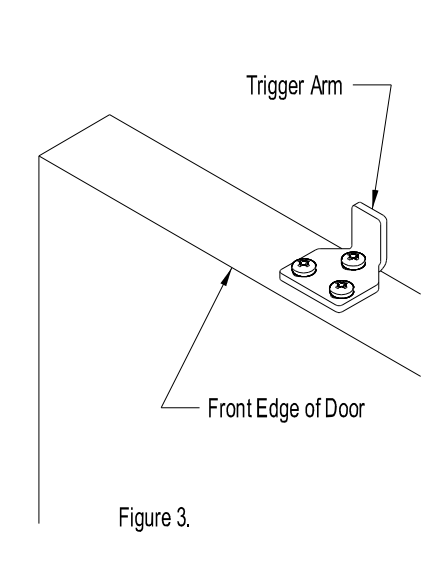

Figure 3.
Step 2) On the left side of the top of the door, cut out the provided template (below) and use it to pre-drill the marked hole locations using a 3/32" drill bit OR use a trigger arm as a template by positioning it 8" from the left edge and 3/16" from the front edge, mark the centre of the 3 slots with a pencil and pre-drill using a 3/32" drill bit. DO NOT affix trigger arm to door at this time.	Step 5) With both sets of Soft Close Mechanisms in the catch position, both Trigger Arms can now be installed using #8 Phillips screws provided (See Figure 3). Ensure to install all three screws to each Trigger Arm. With both Trigger Arms in place, slide the door closed to engage the first Soft Close Mechanism the slide the door open to engage the second Soft Close Mechanism (See Figure 4). Close and open the door again to ensure operation is correct. Note, it may be necessary to re-locate the left and right stoppers on your rail. If adjustments are required, it will be necessary to remove the two outer wall spacers on the rail to enable the re-positioning of the left and right stoppers. Once relocated, re-insert the two outer spacers back onto the wall.
With both sets of Soft Close Mechanisms in the catch position, both Trigger Arms can now be installed using #8 Phillips screws provided (See Figure 3). Ensure to install all three screws to each Trigger Arm. With both Trigger Arms in place, slide the door closed to engage the first Soft Close Mechanism the slide the door open to engage the second Soft Close Mechanism (See Figure 4). Close and open the door again to ensure operation is correct. Note, it may be necessary to re-locate the left and right stoppers on your rail. If adjustments are required, it will be necessary to remove the two outer wall spacers on the rail to enable the re-positioning of the left and right stoppers. Once relocated, re-insert the two outer spacers back onto the wall.